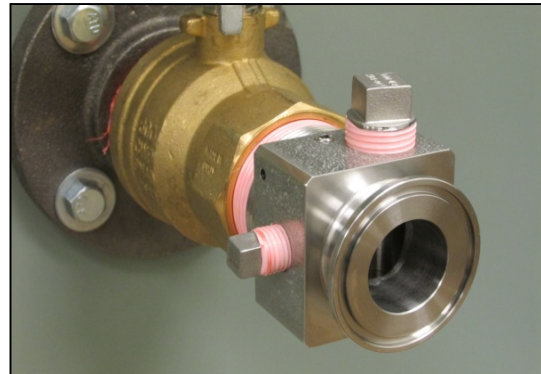

Figure 2: 1/2" and ¼" NPT plug
- 3) Remove the ¼" NPT plug from the tee and apply Teflon tape and pipe-thread sealant to the threads, then re-install in the tee (Fig 2). If the optional Moisture Kit will not be installed, remove the ½" NPT plug and apply Teflon tape and pipe-thread sealant to it as well. Then re-install in the tee. If the Moisture Kit will be installed, remove the ½" NPT plug from the tee entirely.